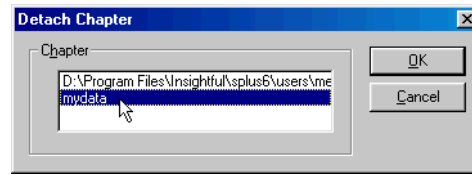

Figure 7.18: The *Detach Chapter* dialog.
- From the main menu, choose **File ► Chapters ► Detach Chapter**. In the **Detach Chapter** dialog (see Figure 7.18), select the database you want to detach and click **OK**.